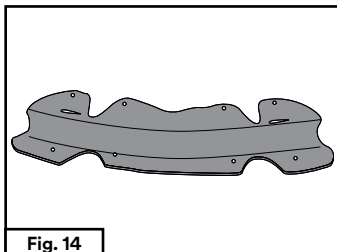

Fig. 14
2. Secure the new S-953 comfort pad (Fig. 14) to the suspension according to Fig. 15. The two long slots in the comfort pad hook over the large top hooks circled in Fig. 15. Use the smaller hooks on the suspension to fully secure the comfort pad.